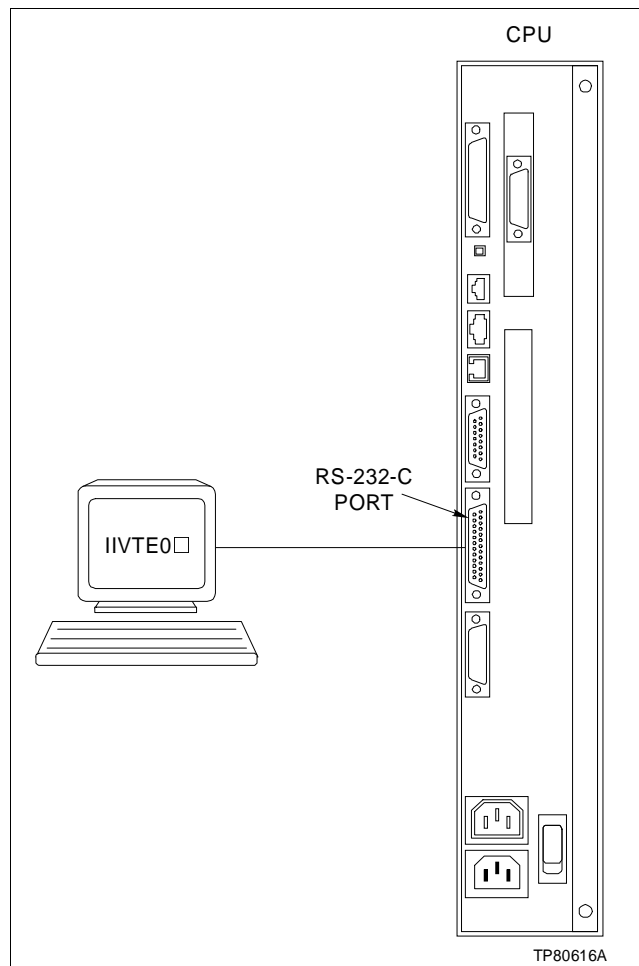

Figure 3-21. IIVTE0\_ Video Diagnostics and Start-Up Terminal
3. For driver cabinets, remove the cover plate from the front of the power entry panel. The power entry panel has a support tray that enables mounting the IIDMT03A into the rack. Remove the hook velcro strip from the support tray: the loop strip will remain on the tray. Remove the adhesive backing from the strip of velcro and apply the strip to the underside of the tape drive. Position the tape drive in the tray. There is an internal SCSI cable with multiple connectors in the driver cabinet (Fig. 3-21). Connect as shown.
Refer to Figure 3-21 for IIVTE0\_ video terminal location and connections.